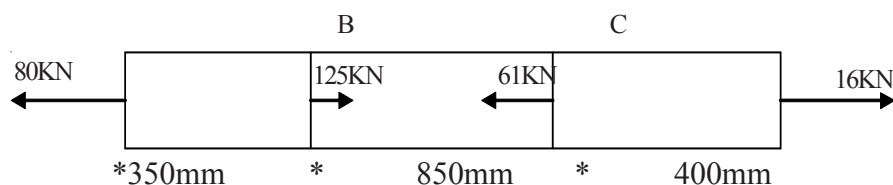

Fig. 4.7
3. A steel rod of diameter 25 mm has to carry system of loads as shown in figure.4.7. Find the total change in the length of the rod. Take $E = 200 \text{ KN/mm}^2$